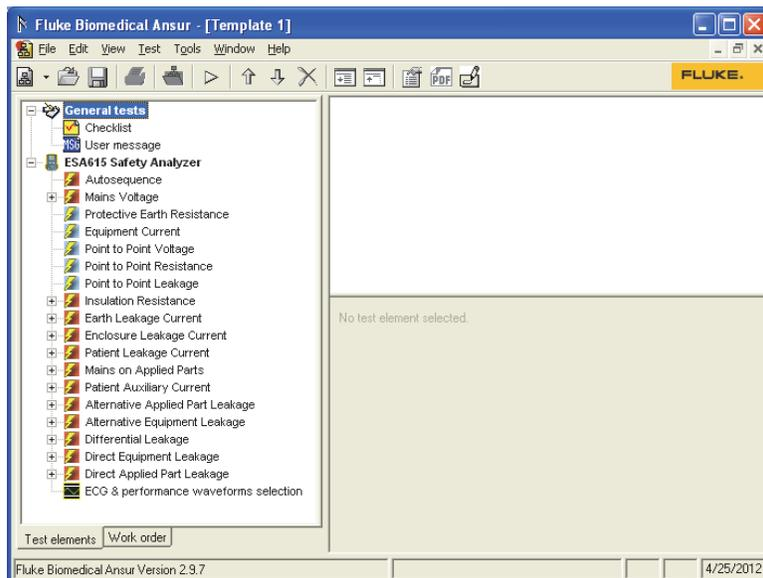

Figure 6-14. Test Sequence Screen
1. Click **Create** to open the window shown in Figure 6-14.